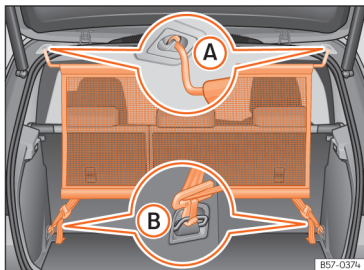

Fig. 138 Net partition fitted.
- Secure the net partition in the left housing of the roof »» **Fig. 138 (A)**. Make sure to move the cross rod down beyond the upper position.
- Hook in the net partition on the rear right-hand side roof housing by pressing on the rod »» **Fig. 138 (A)**.
- Secure two hooks of the partition net to the fastening rings of the boot »» **Fig. 138 (B)** and tighten the straps firmly.